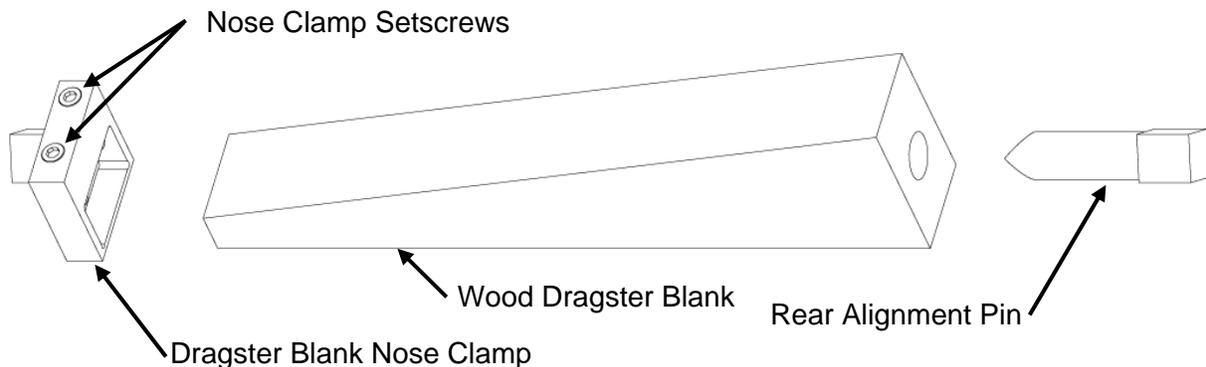

FIGURE 7: PREPARING THE DRAGSTER WOOD BLANK
1. **Attach the nose clamp to the wood blank.** Insert the wood blank into the nose clamp in the orientation shown (Figure 7). Make sure that the front surface of the blank is tight against the bottom surface of the pocket in the nose clamp. Tighten the two nose clamp setscrews only enough to hold the blank in the clamp with the 3/16" Allen wrench.